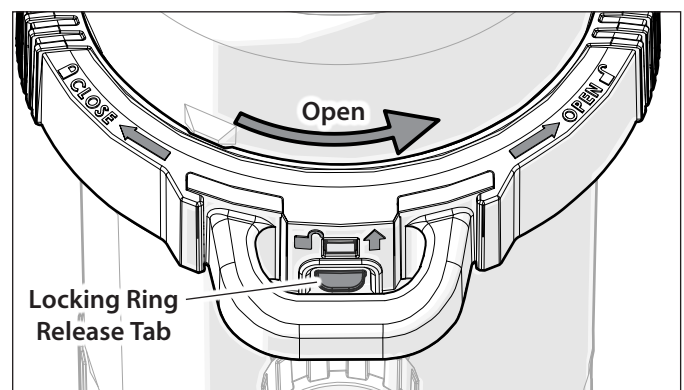

Figure 15. Locking Ring Release Tab
5. Loosen the locking ring on filter. Pull up on the locking ring release tab and hold while turning the locking ring counterclockwise (Figure 15).